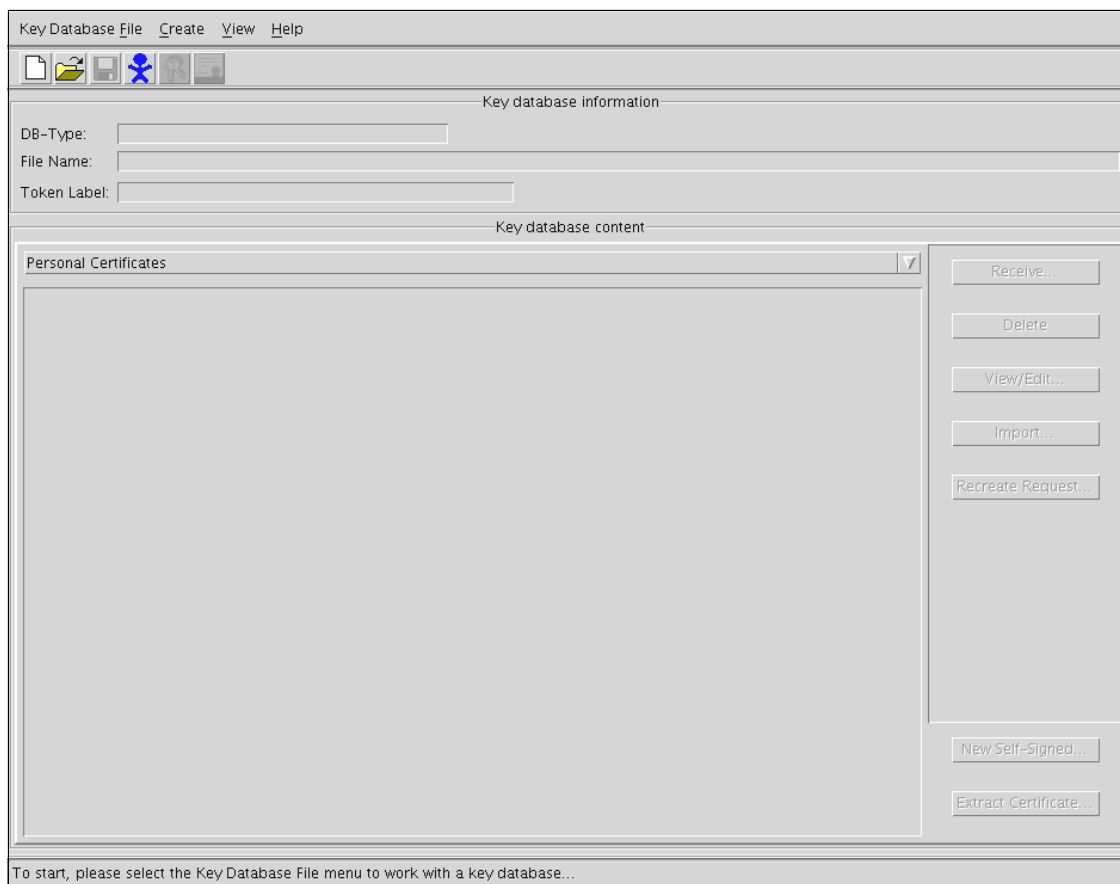

Figure 16-2 The ikeyman program initial window
2. Start the gsk7ikm utility with X Window. This is located in /usr/bin/gsk7ikm, which is a symbolic link to /usr/opt/ibm/gskta/bin/gsk7ikm. A window like the one shown in Figure 16-2 will appear.